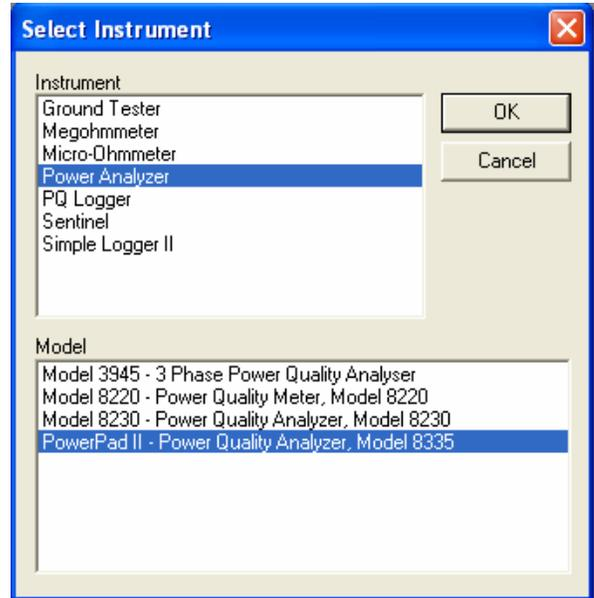

Figure 2
- Click the **Configure Instrument** button and the **Select Instrument** window will appear. (Figure2)
- From the **Select Instrument** window select the **Power Analyzer** option and click **OK**. (Figure2)
NOTE: The instrument must be configured for the same communications rate specified in Figure 2. If it is not, then you must either select the corresponding rate or change the instrument's rate.